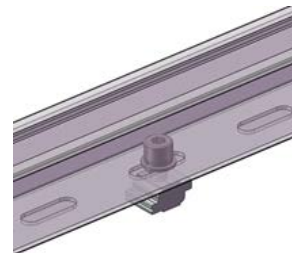

Figure 15
5.4.2 Insert the Z module with bolt (EZ-Z-STBW) into the slot hole of Cable Tray for each fixing point, as shown in Figure 15.